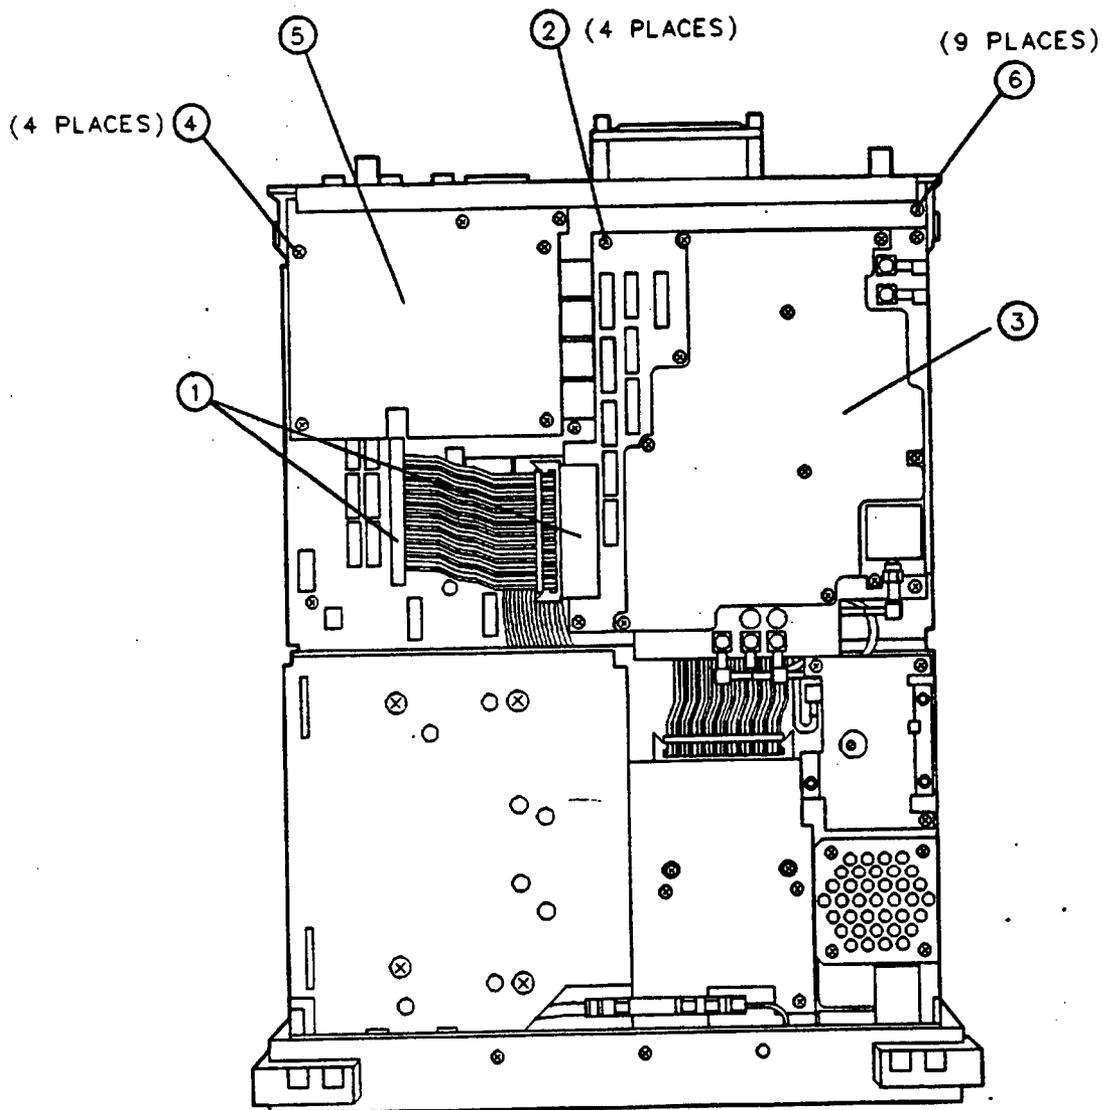
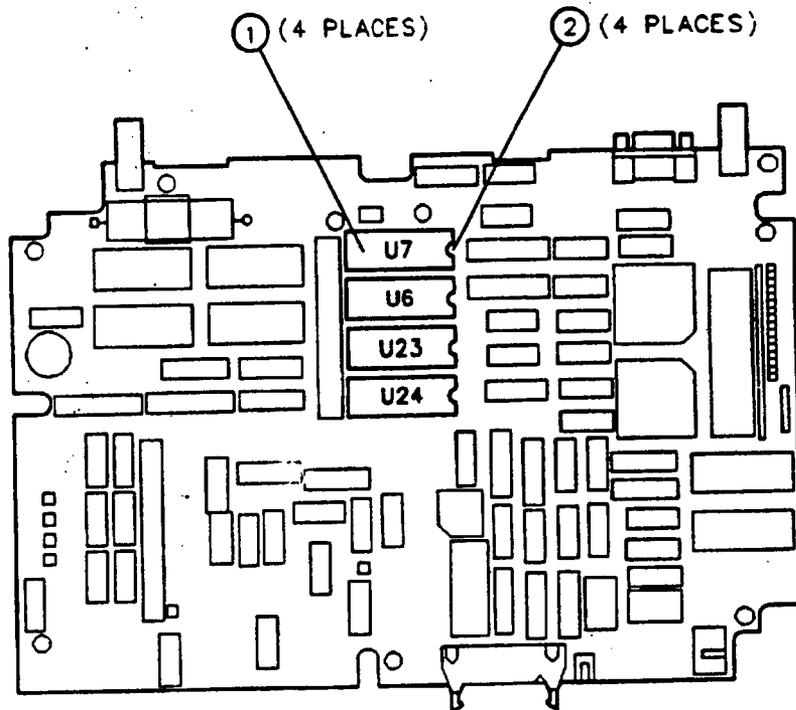

Figure 3-34. A16 Processor/Video Board Replacement
Figure 3-35. A16 Processor/Video Board Firmware ROM Replacement
4. Disconnect the W14 ribbon cable (1) from A16J2 and A25J4. See Figure 3-34.
5. Remove the 4 screws (2) that secure the A25 Counter-Lock Assembly.
6. Remove the A25 assembly (3).
2. Replace the nine screws (6) that secure the A16 assembly. See Figure 3-34.
2. Disconnect the W14 ribbon cable from A25J4 (1). See Figure 3-34.
3. Remove the four screws (2) that secure the A25 Counter-Lock Assembly.
4. Remove the A25 assembly (3).
5. Note the location of the four firmware ROMs: A16U6, A16U7, A16U23, and A16U24. Refer to Figure 3-35.
6. Carefully pry the ROMs upward using a small-blade screwdriver. Pull the ROMs from their sockets evenly so that the IC pins (1) at the rear of each ROM are not bent.
1. Position each ROM on the A16 assembly as illustrated in Figure 3-35.
3. Replace the A25 Counter-Lock assembly (3). See Figure 3-34.
4. Replace the four screws (2) that secure the counter-lock assembly.
5. Connect the W14 ribbon cable to A25J4 (1).